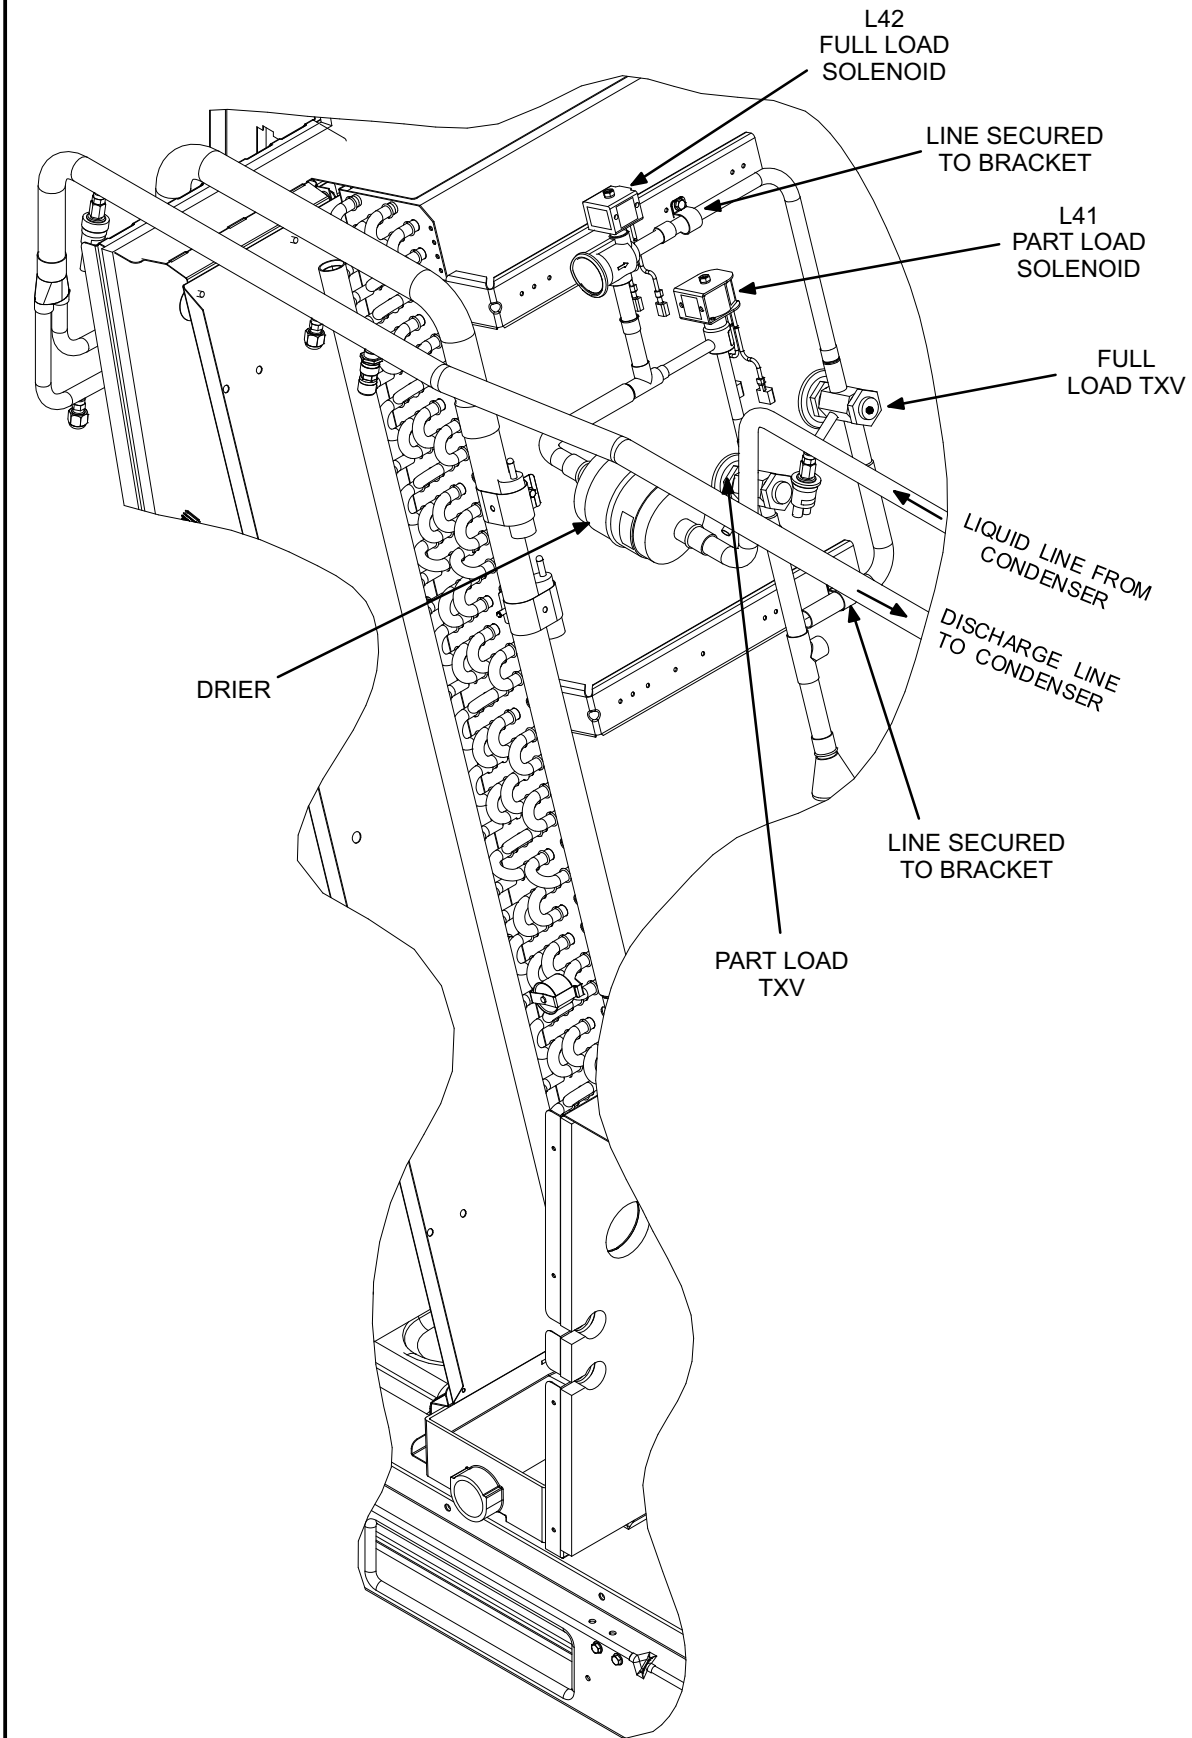

FIGURE 2
- 3- Remove clamps securing assembly to brackets. See figure 2.